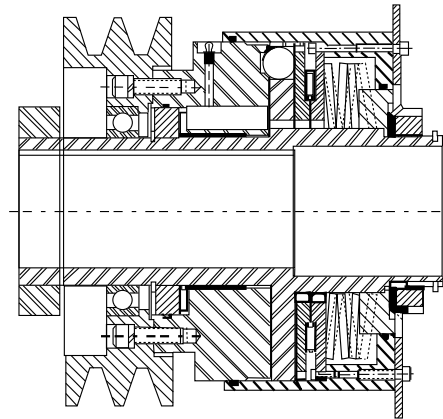

Figure 4 - Type B - Style L, Standard Sheave Mounting
- Attach adapter to housing with mounting bolts and a high collar lock washer. Refer to Table 1 for recommended seating torques. Note: Large sprockets or sheaves should be supported on the rotor of the clutch with an auxiliary bearing, i.e. sleeve, needle roller, radial ball. Refer to Figure 4.